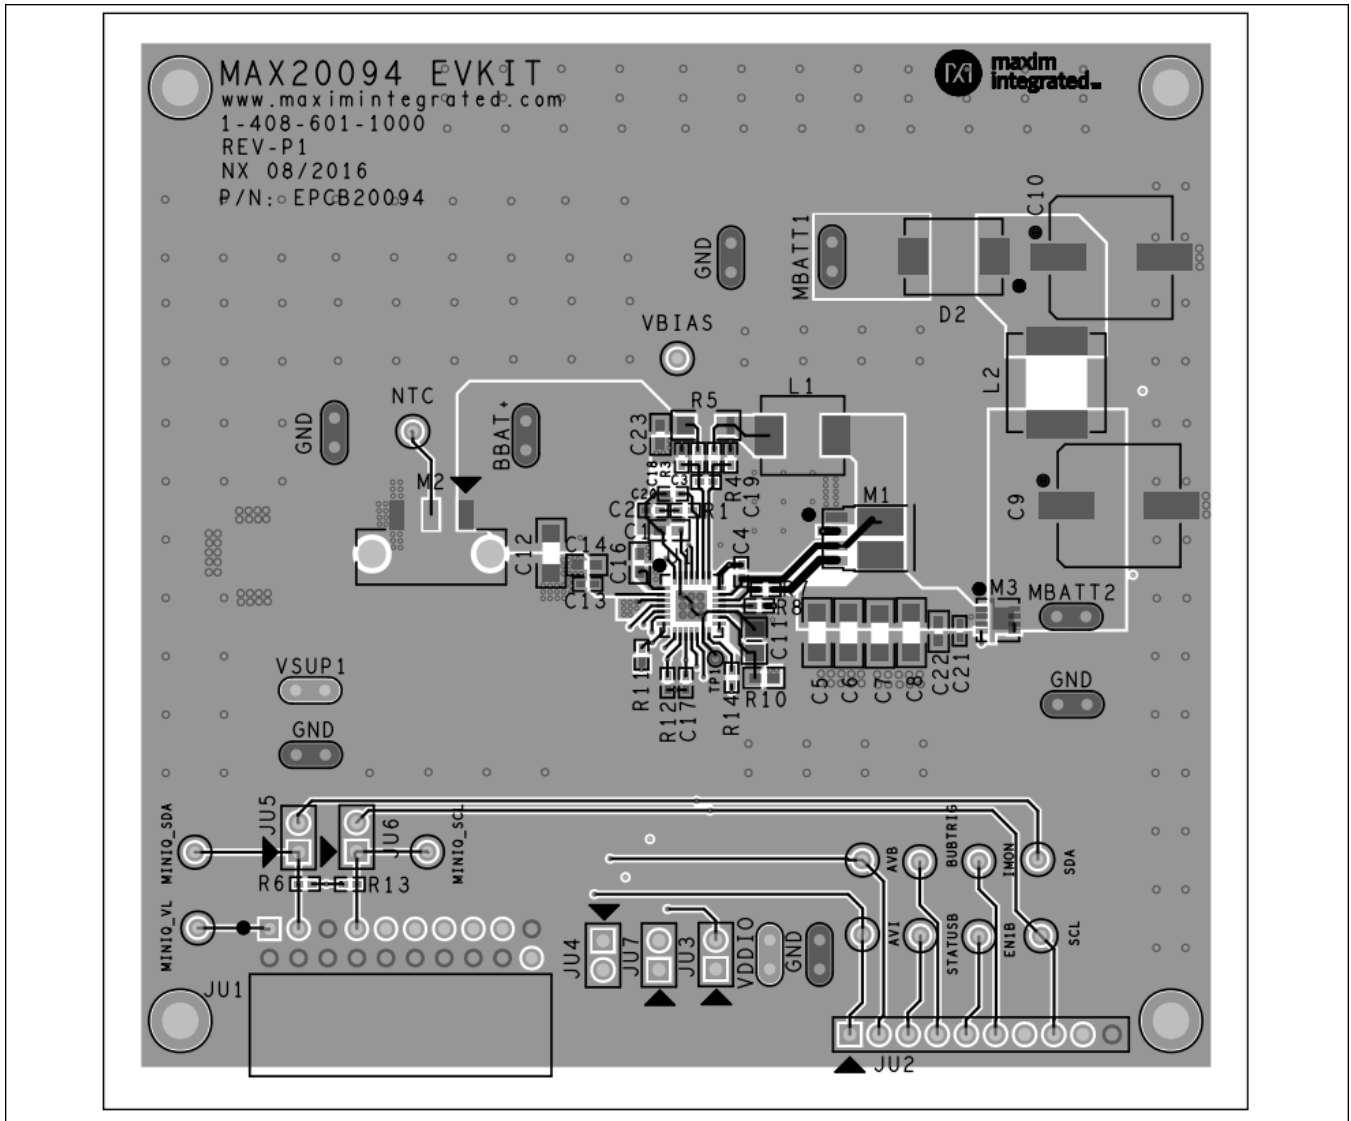

Figure 8. MAX20094 EV Kit Component Placement Guide/PCB Layout
- Make the DC-DC controller ground connections, as shown in the MAX20094 EV kit component placement guide (see Figure 8). This diagram can be viewed as having two separate ground planes: power ground, where all the high-power components go, and an analog ground plane for sensitive analog components. The analog ground plane and power ground plane must meet only at a single point directly under the IC.